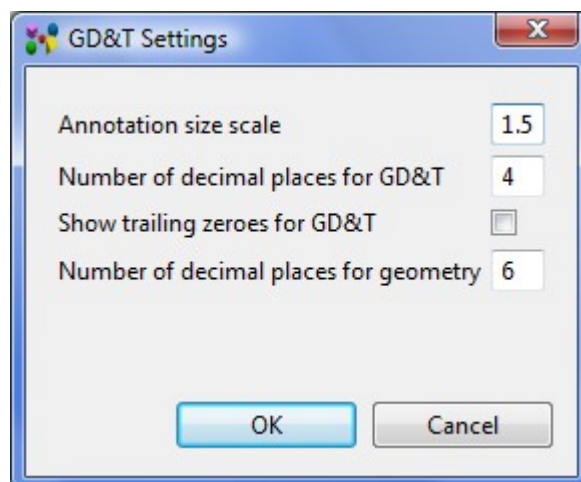

Figure 2. GD&T Settings wizard
- Select the **Settings...** item in the view menu. The **GD&T Settings** dialogue window is prompted on the screen (see Figure 2):